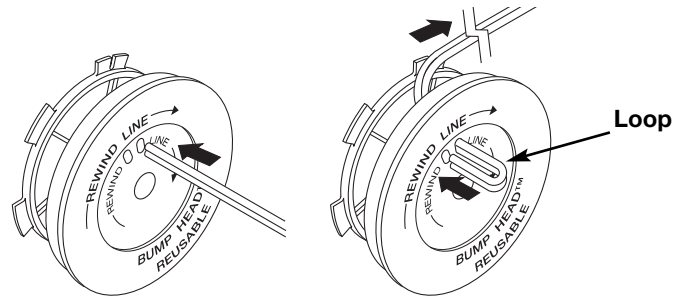

Fig. 17
- Take approximately 10 feet (3 m) of new trimming line. Insert one end of the line through one of the two holes in the inner reel (Fig. 17). Pull the line through the inner reel until only about 4 inches is left out.
- Insert the end of the line into the open hole in the inner reel and pull the line tight to make the loop as small as possible (Fig. 17).